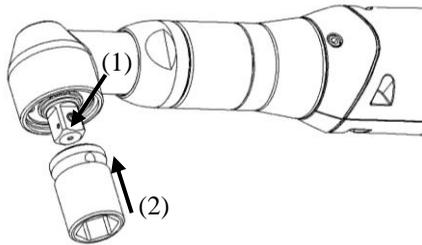

Fig. 4
- (1) Press down the fixing pin (1) in the direction shown by the arrow (Fig. 4).
- (2) Insert the socket into the anvil, and then release the fixing pin to secure the socket.